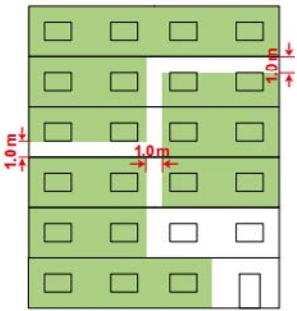

Abb. 9
- Vertical greening that extends over a maximum of three floor levels and is >1 m away from the next greening (Fig. 9 – 11).